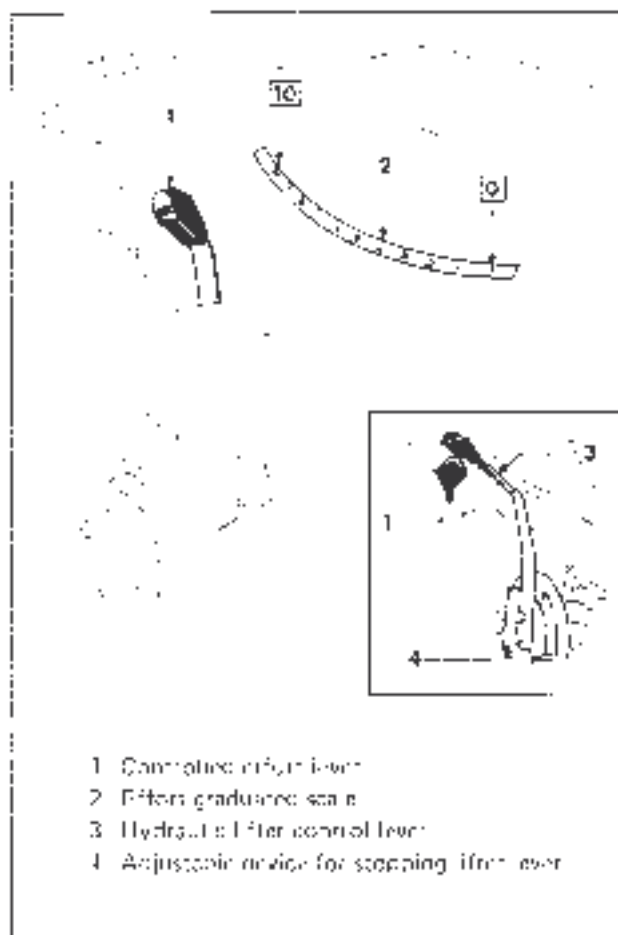

Figure 13 Use of the controlled effort hydraulic lifter
Make sure the controlled effort lever (fig. 13, item 1) is disengaged (position 10 of graduated scale).
The controlled effort lever makes it possible adjusting the hydraulic lifter sensitivity as follows (see fig. 13):
Operate the controls as follows (see fig. 13):
3. Adjust the lifter sensitivity actuating lever (1) as shown in figure 13.